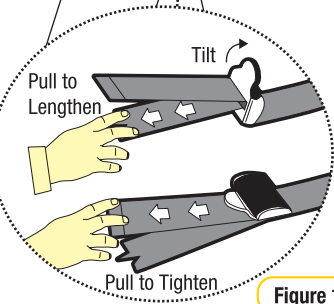

Figure 12
Step 6: Pull to tighten to remove all the slack, from the upper anchorage strap. Do not overtighten as this could cause the restraint to lift off the vehicle seat (refer to Figure 12).